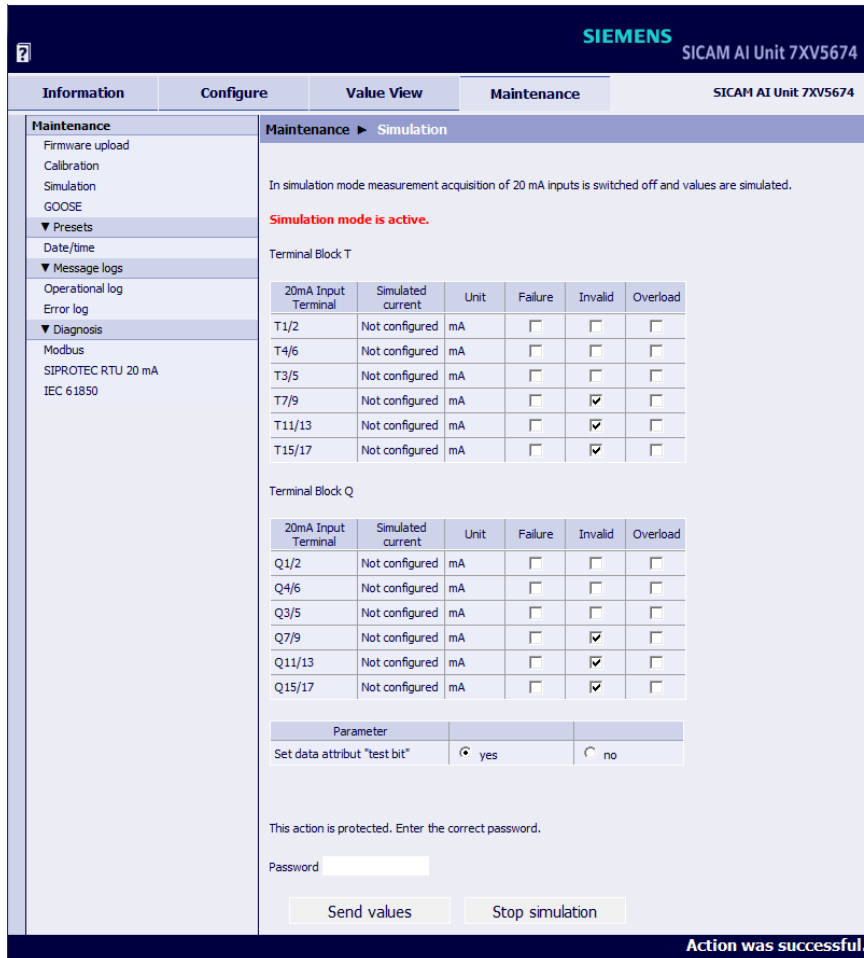

Fig. 7-39 Maintenance Tab, Simulation Mode is Active Input/Output Window
- ✧ Click the **Send values** button (see figure 7-39).
- ✧ Click the **Stop simulation** button (see figure 7-39).